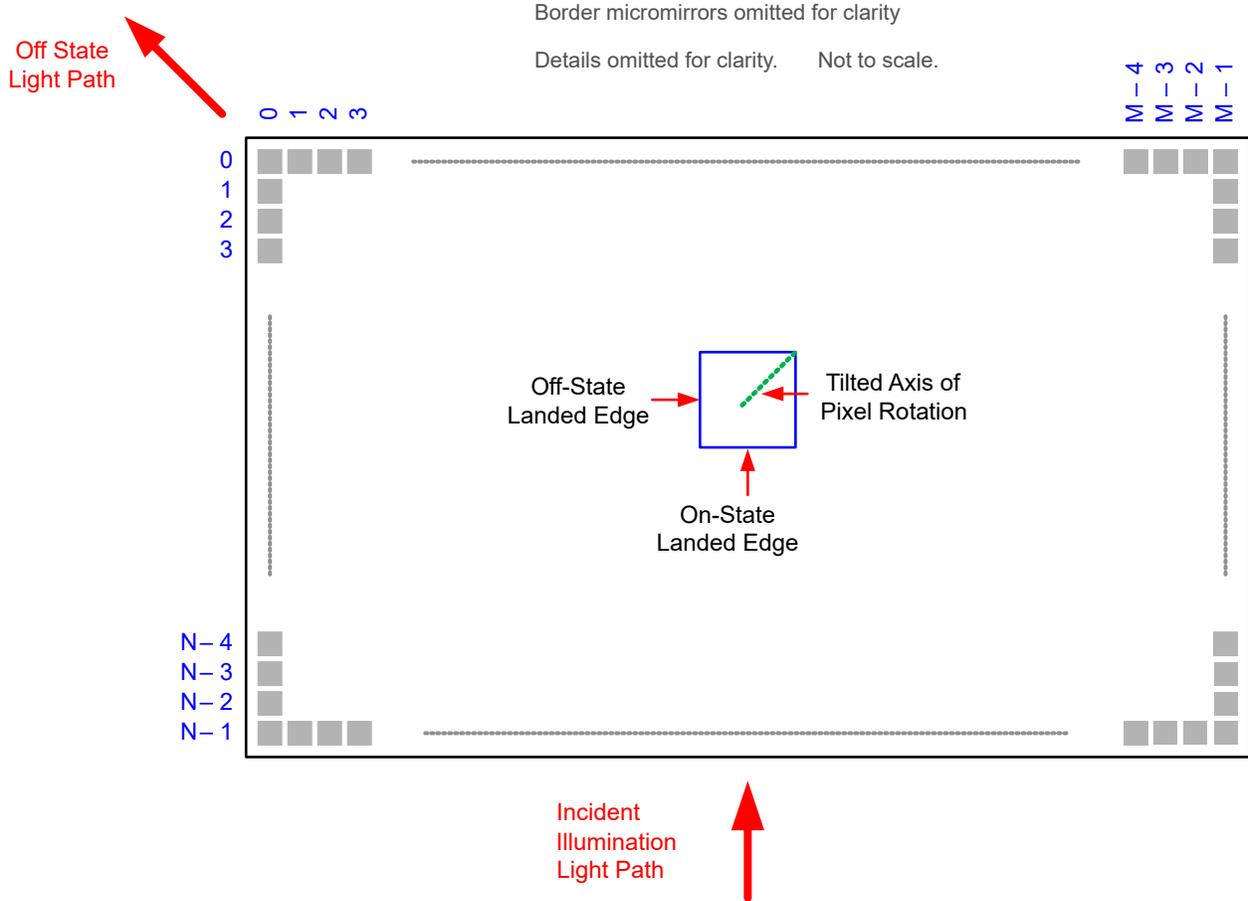

**Figure 5-14. Micromirror Array Physical Characteristics**
- (1) See Figure 5-14.
- (2) The structure and qualities of the border around the active array include a band of partially functional micromirrors referred to as the *Pond Of Micromirrors* (POM). These micromirrors are structurally and/or electrically prevented from tilting toward the bright or ON state but still require an electrical bias to tilt toward the OFF state.